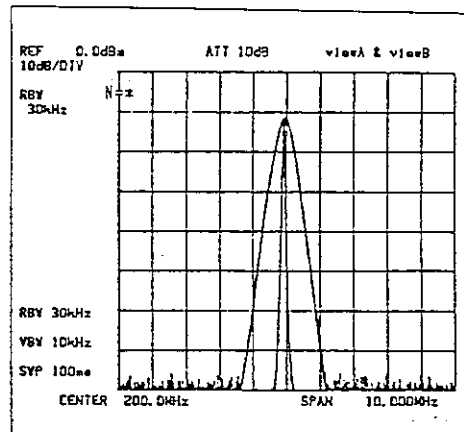

Figure 3-22 Dual-screen Display of a Refreshed WRITE Waveform and the Stored Waveform
- ② **A** **STORE** Stops the waveform. This waveform data is stored in memory A.
- ③ Pressing the **WRITE** key simultaneously displays the waveform stored during WRITE mode and the waveform stored in memory A or B. These two waveforms can be distinguished from each other by changing the resolution bandwidth to 30 KHz. Then, the CRT will change as shown in Figure 3-22.